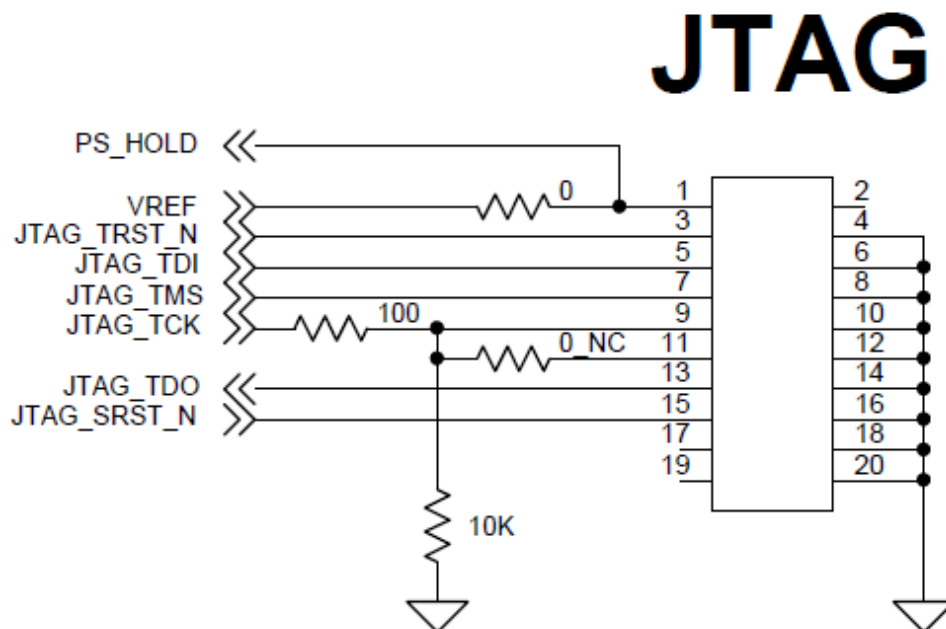

Figure 6. JTAG schematic (example)
- An input to the POWER\_ON pin shall trigger the transition from the Module Disabled to the Module Enabled state. See figure6, a low pulse( $t_{low} > 0s$ ) on POWER\_ON pad will enable the module after VCC is applied.
- An input to the POWER\_ON pin shall trigger the transition from the Module Enabled to the Module Disabled state. See figure6, after power on, a low pulse ( $t_{low} > 2s$ ) on POWER\_ON pin will disable (power-off) the module.